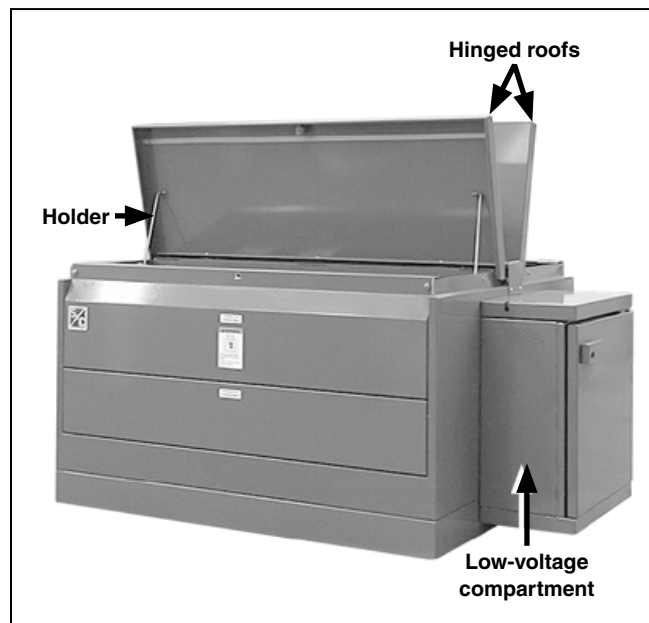

Figure 8. A pad-mounted Vista switchgear enclosure with the roofs open.
- STEP 3.** Lift the hinged roofs upward and secure them with the holders. See Figure 8.